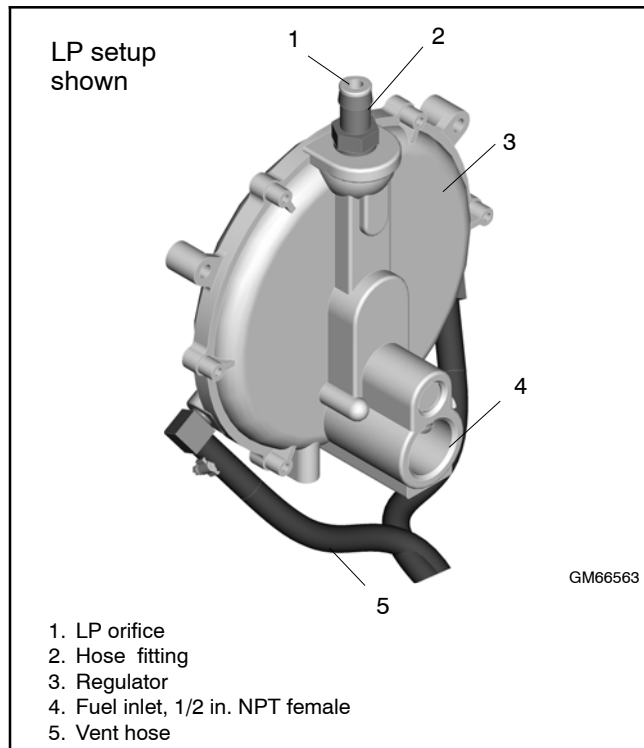

Figure 5-30 Fuel Regulator and LP Orifice, 20RES/RESL
5. Remove the hose clamp and fuel hose from the hose fitting. See Figure 5-30.
6. Insert the orifice into the hose fitting. See Figure 5-30.